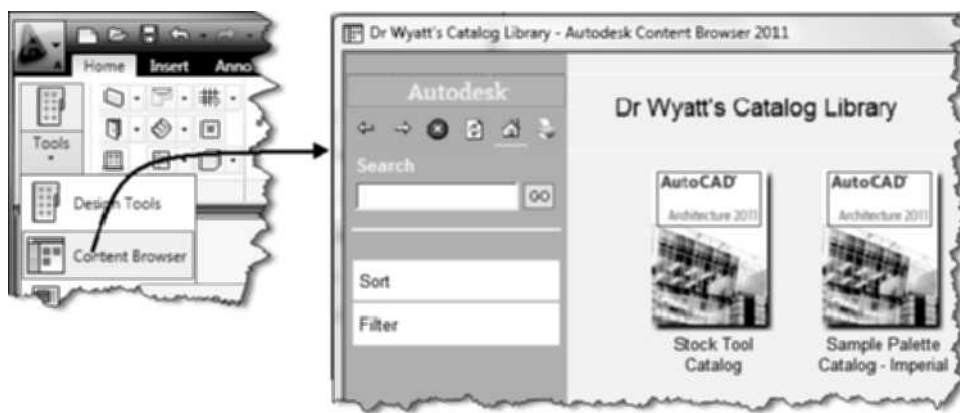

FIGURE 1.35 Accessing the Content Browser from the Ribbon
16. Choose the flyout of the Tools button in the Build panel of the Home tab, choose **Content Browser** tool as shown in Figure 1.35.